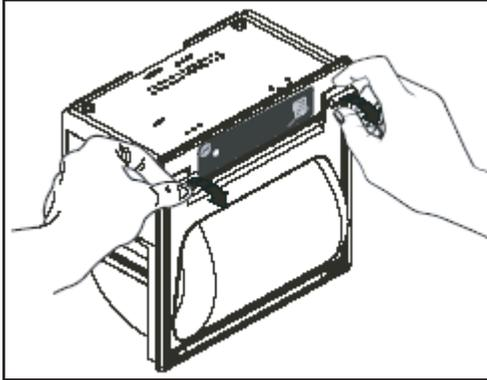

Fig. 29: Opening printer
2. Position the roll of paper inside the housing in the rotation direction indicated in Fig. 29.